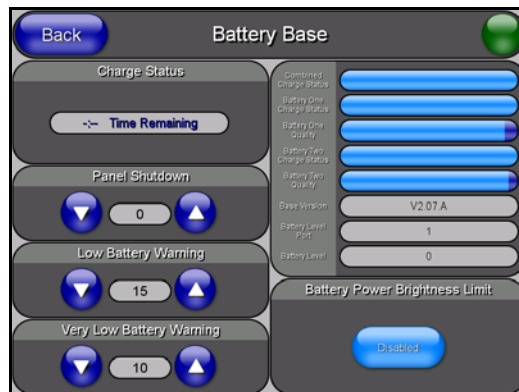

FIG. 80 Battery Base page
3. Press the **Battery Base** button to open the Battery Base page (FIG. 80).